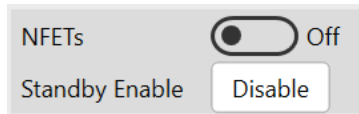

Figure 31: Simple Mode MOSFET Control
33. Figure 31 shows how to configure simple mode MOSFET control. Modify the control mode on the configuration tab, and then the options on the control tab change accordingly.